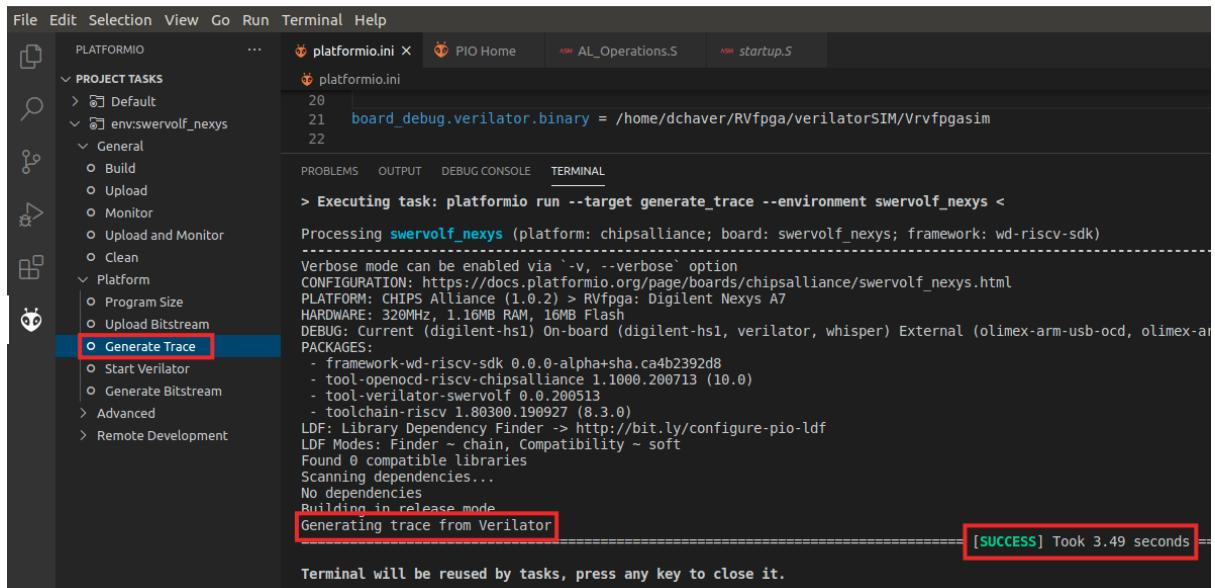

Figure 83. Generating trace from Verilator
6. Run the simulation by clicking on the PlatformIO icon in the left menu ribbon , then expand Project Tasks → env:swervolf_nexys → Platform and click on Generate Trace, as shown in Figure 83.